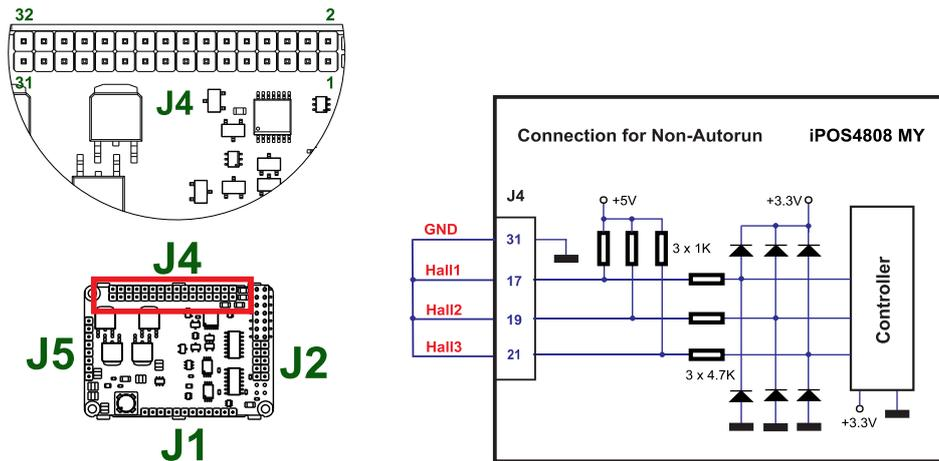

Figure 3.28. Temporary connection during power-on to remove the drive from *Autorun* mode
- Hardware – by temporary connecting all digital Hall inputs to GND, during the power on for about 1s (until the green led is turned on), as shown in *Figure 3.28*. This option is particularly useful when it is not possible to communicate with the drive.